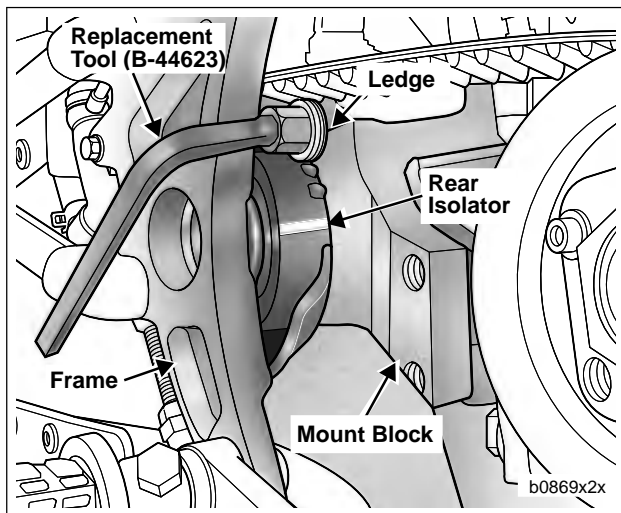

Figure 2-76. Rear Isolator Replacement Tool In Use
- See Figure 2-76. Working on the right side first, insert the REAR ISOLATOR REPLACEMENT TOOL (Part No. B-44623) between mount block and frame. NOTE: Ledge on tool should engage top of mount block.
- See Figure 2-76. On right side of motorcycle, insert rear isolator replacement tool between mount block and frame.